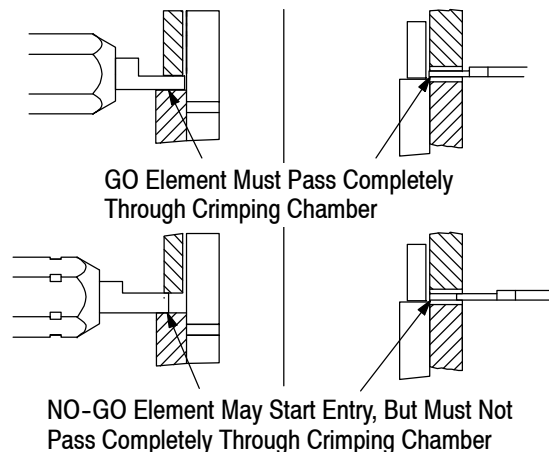

Figure 5
This inspection requires the use of plug gages conforming to the dimensions provided in Figure 5. TE does not manufacture or market these gages. To gage the crimping chamber, proceed as follows:
The GO element must pass completely through the crimping chamber. See Figure 5.
4. Align the NO-GO element and try to insert it straight into the same crimping chamber. The NO-GO element may start entry, but must not pass completely through the crimping chamber. See Figure 5.